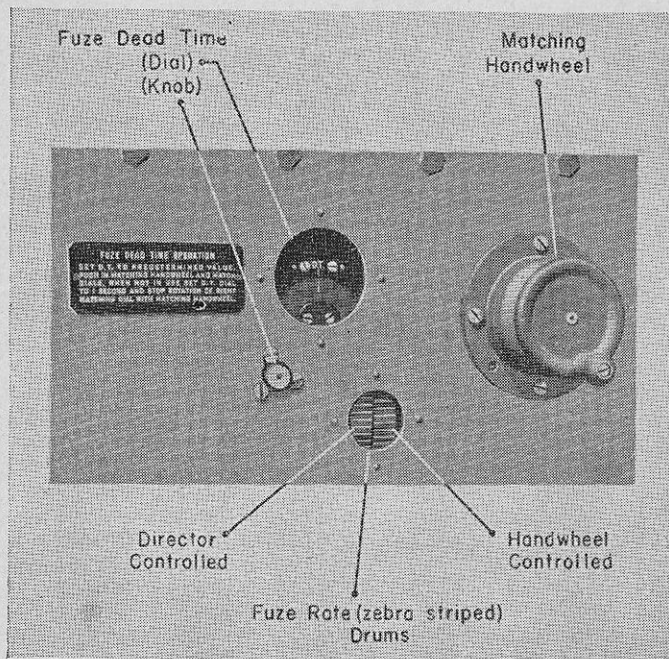

FIGURE 6.—Fuze dead time mechanisms on the rear of the director are operated by the fuze dead time setter, No. 5.
(2) Ballistic correction or total corrections, fire for effect, are put in on the same spot dials. Since these corrections are put in the director before any fire adjustment corrections, the following method is employed. The trial fire correction knob is turned until the movable index is at the value of the ballistic correction or total correction, fire for effect. The inner spot dial is next matched to the movable index by the spot handwheel, thus setting in the value of the correction. If any fire adjustment corrections are put in subsequently, they are set in *with respect to the movable index*. For example, suppose the ballistic correction in QE is -6 mils. The movable index is moved to the -6 -mil mark on the outer (fixed) ring of the QE spot dial. The inner dial is matched to the movable index by the spotting handwheel. The director now has a $d\phi = -6$ set-in. As a result of firing a fire adjustment of $+4$ mils is indicated. The inner dial is moved by the spot handwheel until the $+4$ mil mark is opposite the movable index. The director now has $-6 + 4 = -2$ mils set in it. Notice that the movable index provides a means of setting in two corrections without any mental arithmetic on the part of the operator.
(3) Because of the right-hand rifling of the barrel of an AA gun there is a drift of the projectile in flight to the right. To compensate for this there is permanently set into the director a left correction of seven mils. When the lateral spot dial records zero there is actually a 7-mil left azimuth correction in the director.
d. An adjusting knob and dial are provided to compensate for the "dead" time which elapses between setting the fuze and firing the round. The dial is calibrated in seconds, from 1 to 6. Parts of the associated mechanism are fuze rate drums and a handwheel, operated by No. 5. (See fig. 6.)